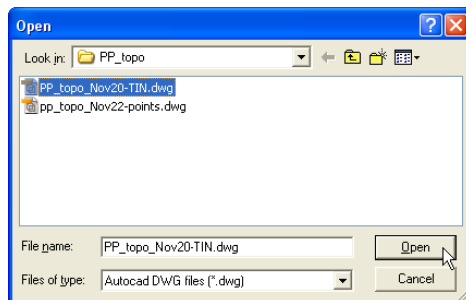

Figure 5-3. Open AutoCAD 3D TIN File
2. On the *Open* dialog box, navigate to the location of the desired file, select it, and click **Open** (Figure 5-3). The information from the selected file is added to the 3D Project file.